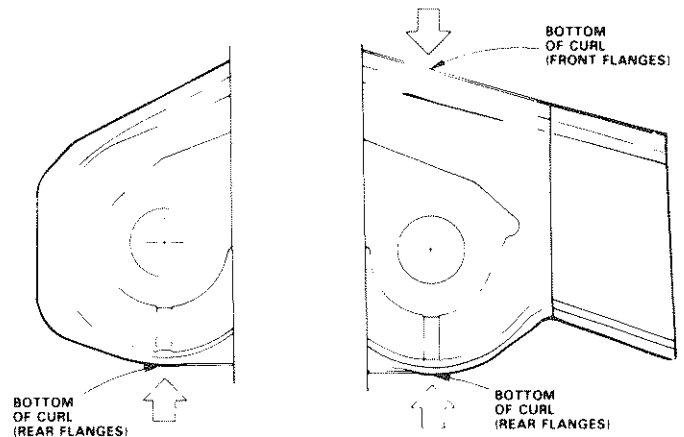

FIGURE 43
- Use a ruler to make sure bottom of curl at rear of mower deck are the same height from the ground on each side (Fig. 43).
Move attachment to full "UP" position. After leveling side to side, measure bottom of curl at FRONT AND REAR OF MOWER. The bottom of curl at the R.H. front flanges should measure 3/4" lower than at the R.H. REAR flange (Fig. 43). If adjustment is required follow the procedure below.